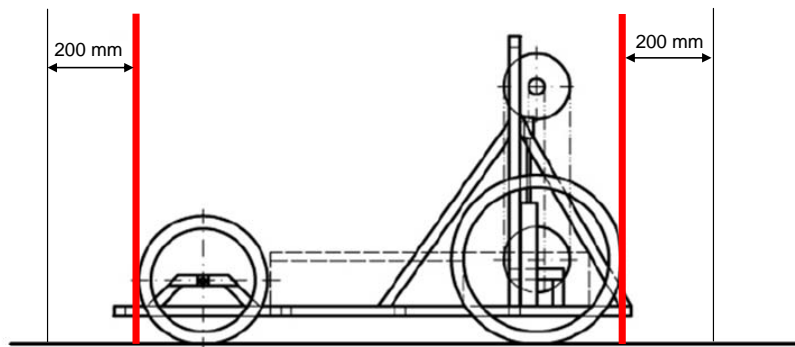

figure 2.
- e) The engine should be placed in the vehicle so that its parts extend max. 200 mm from the farthestmost points of the front and back wheels. (See figure 2.). Parts not belonging to the engine may extend longer.